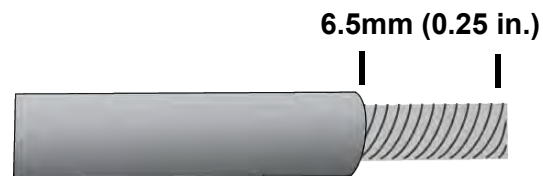

Figure 52. Stripping an Alarm Wire
1. Strip 6.5mm (0.25 in.) of insulation from the end of a wire with a wire insulator stripper. Use 24 to 18 AWG stranded wires properly rated for the installation site. Refer to Figure 52.